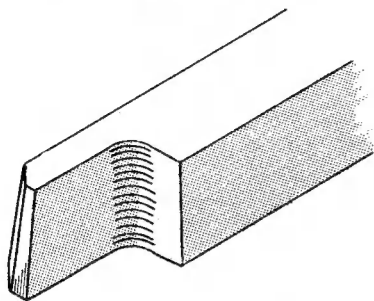

Fig. 6. Tool for machining spigot on mandrel
*Operation 2.* The 1-in. dia. B.S.F. thread has now to be machined, but first the  $1\frac{1}{8}$  in.  $\times$   $\frac{5}{8}$  in. dia. portion of the mandrel must be rough machined to allow the screw-cutting tool to clear when it has passed over the threaded portion of the work. The rough turning operation and the subsequent final turning of the  $\frac{5}{8}$  in. dia. portion to size may be carried out with an angular parting tool mounted in the back toolpost. This tool should have a slight facet at the top, as shown in Fig. 6, in order to impart a good finish to the work. When the rough turning has been completed, an external threading tool is mounted in the top-slide toolpost, which is set over to  $27\frac{1}{2}$  deg., that is, one-half of the included angle of a Whitworth Standard V-thread. The necessary change wheels to cut 1-in. B.S.F. or 10 threads-per-inch, are then set up, and the lathe is turned by hand to